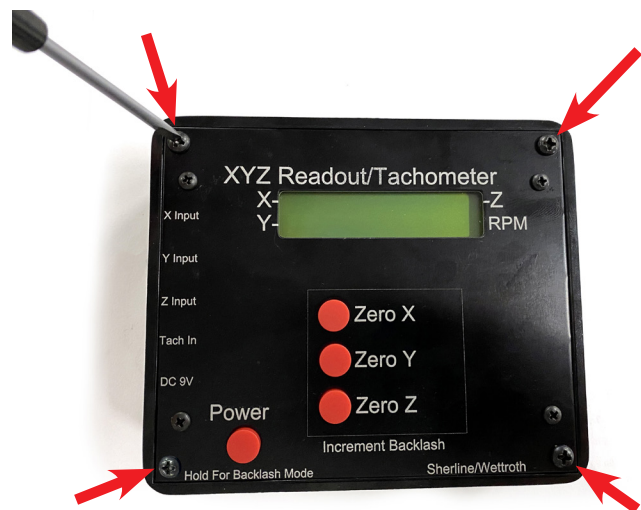

FIGURE 2—Remove the four corner screws.
2. Unscrew the four corner screws that hold the DRO face plate and control onto the housing (see Figure 2).